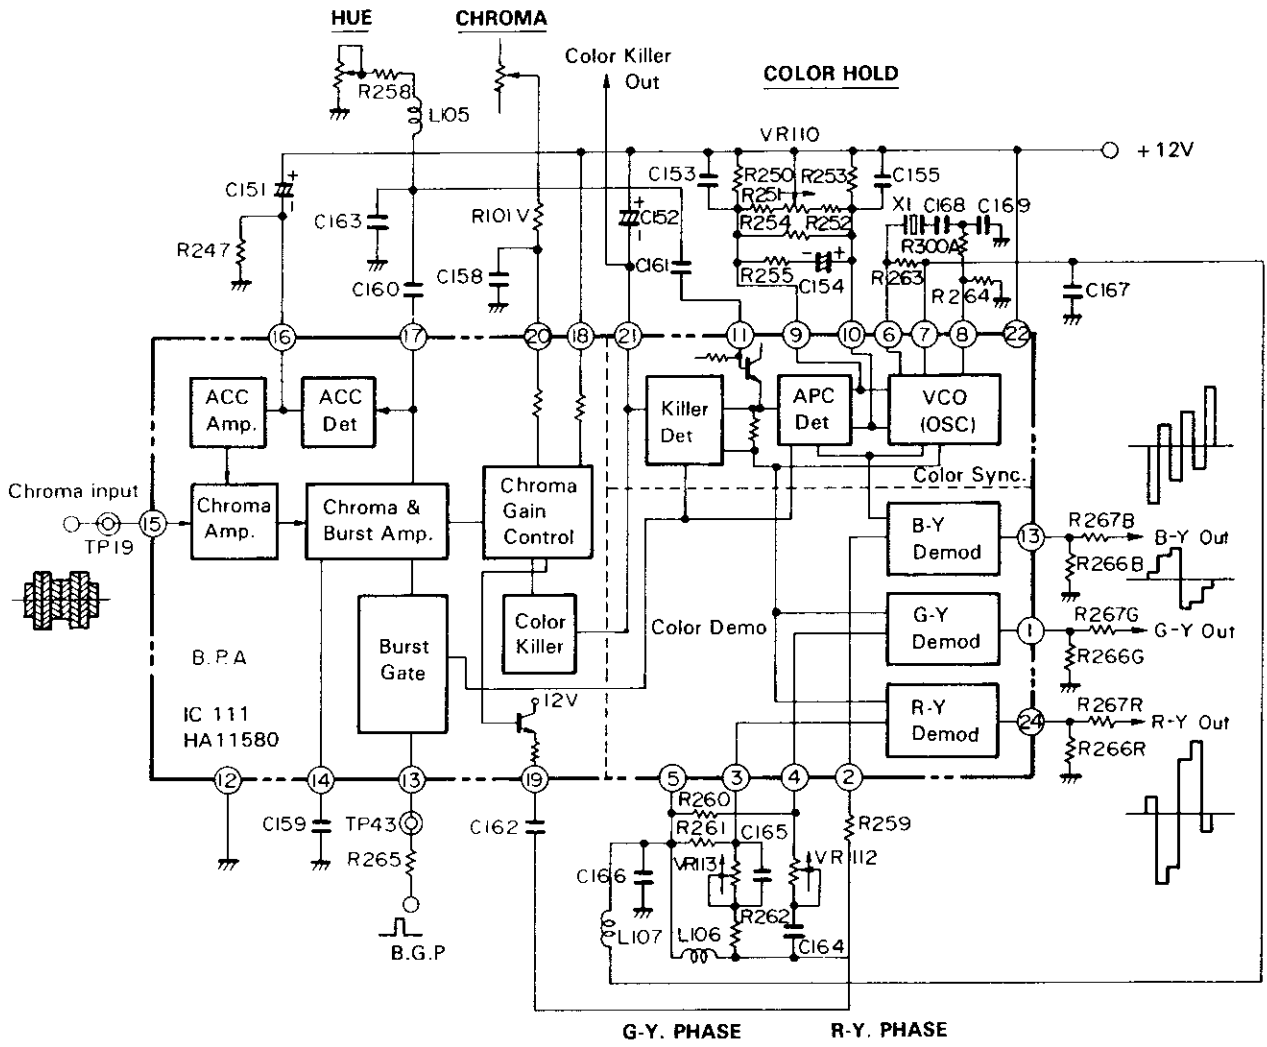

Fig. 17. Chroma System Circuit
Q108 is a buffer to increase the Q in the trap circuits as well as to reduce the output impedance of the trap output. Q107 is an electronic switch that turns the notch filter circuit on and off. Decoder IC111 (Fig. 17) checks the input video signal to this monitor for the presence of a burst signal. Q107 is automatically turned on and off by a DC output obtained from the color killer output of IC111.
When the input signal is B/W (contains no burst signal), the killer voltage at Pin ② of IC111 (Fig. 17) is +7.6V DC, Q126 is turned on and the emitter Q127 is turned off, switch Q107 is turned on, the notch filter is short-circuited, allowing the B/W signal to pass